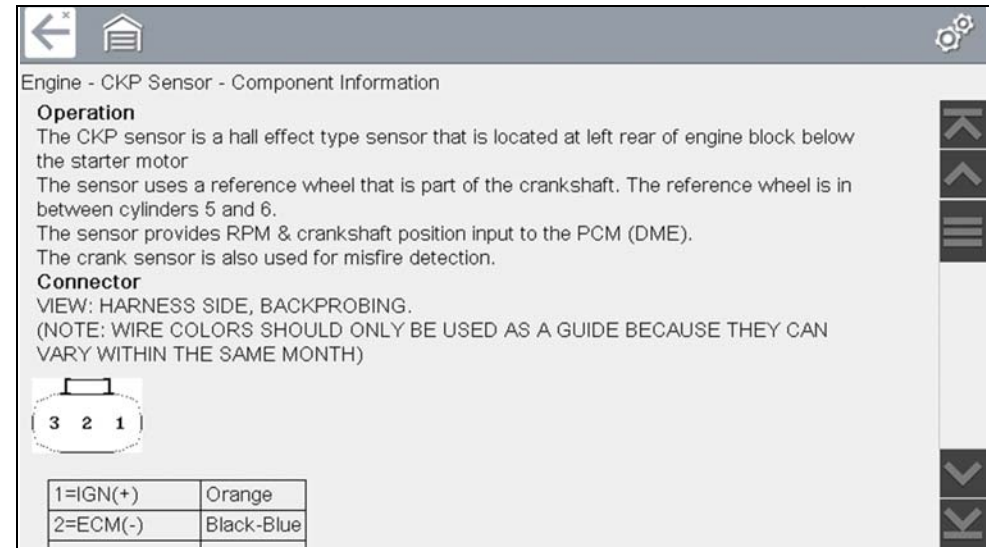

**Figure 11-5** Component Tests Menu
2. Select **Component Information** from the Component Test menu (Figure 11-5).